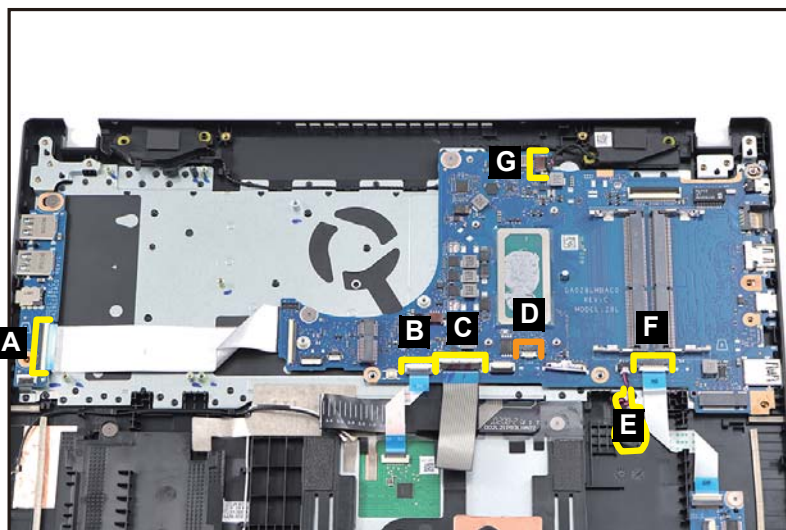

Figure 1-30. Mainboard Removal
1. Disconnect the DB FFC from the IO board connector (A) (Figure 1-30).
2. Disconnect the touchpad FFC from the mainboard connector (B) (Figure 1-30).
3. Disconnect the keyboard FPC from the mainboard connector (C) (Figure 1-30).
4. Disconnect the keyboard backlight FPC from the mainboard connector (D) (Figure 1-30) (optional).
5. Pry to detach the adhesive tape underneath the RTC battery. Then remove the RTC battery (E) (Figure 1-30).
6. Disconnect the card reader board FFC from the mainboard connector (F) (Figure 1-30).
7. Disconnect the speaker cable from the mainboard connector (G) (Figure 1-30).